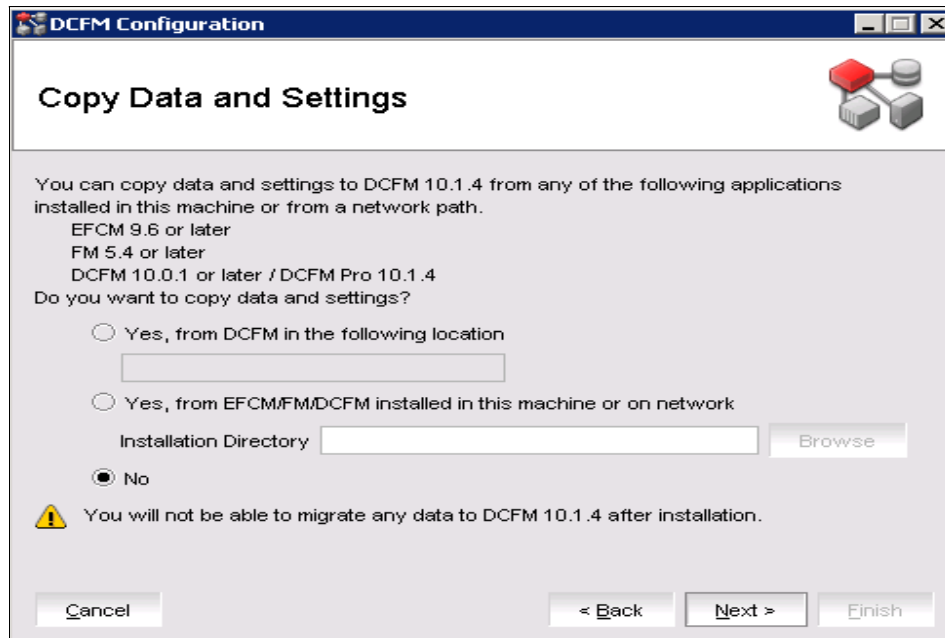

Figure 9-4 Copy Data and Settings dialog box
8. Select **No** on the Copy Data and Settings panel and then click **Next** (Figure 9-4).